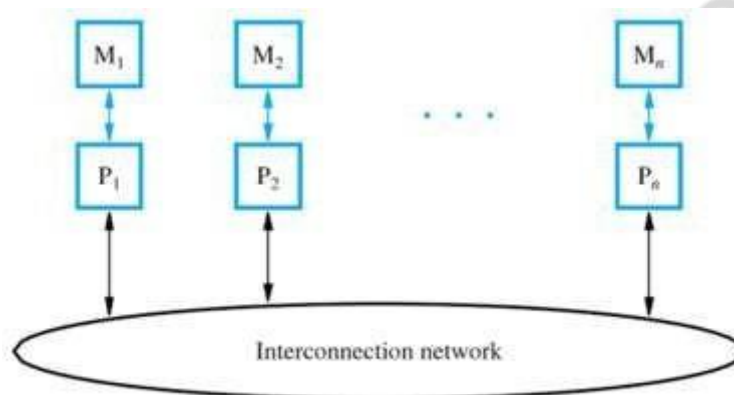

Figure 12.4 A distributed memory system.
- Such systems are often called **Distributed-Memory Systems** (Figure 12.4).